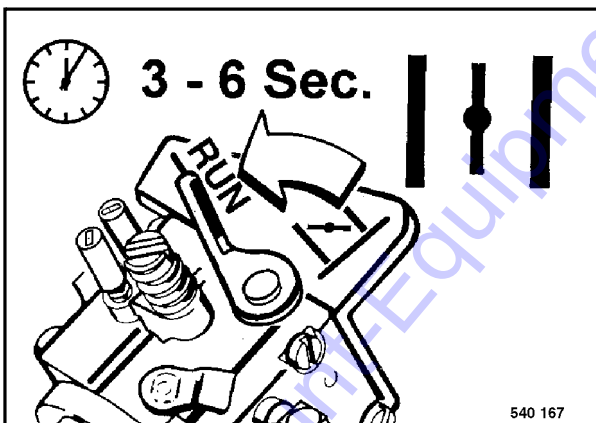

Fig. 6
- Open the choke (Fig. 6) after 3 to 6 seconds, position "RUN".